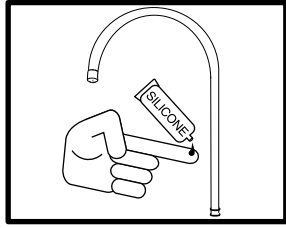

Figure 8
5. Lubricate the o-rings on the bottom of the faucet spout with supplied silicone lubricant. Use lubricant sparingly (Figure 8).